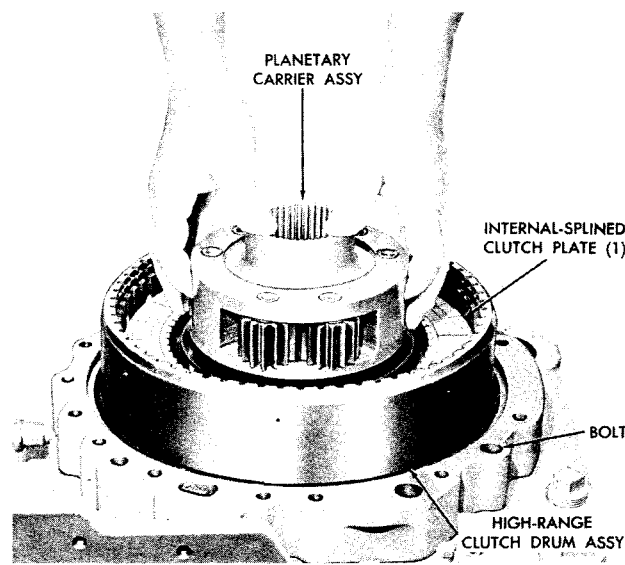

Fig. 7-31. Installing low-range planetary carrier assembly (-3 underdrive model)
(12) Install two 3/8-16 x 2 3/4-inch bolts at opposite sides of the adapter assembly to pull the adapter down against the clutch piston return springs. Install the two 3/8-16 x 1 3/4-inch, 12-point-head bolts (fig. 7-31). Tighten the bolts to 36 to 43 pound feet torque.
(13) Remove the two outer guide bolts and 3/8-16 x 2 3/4-inch pulldown bolts which were temporarily installed in (12), above. Install the six 3/8-24 x 1 1/4-inch, self-locking bolts 28 (B, foldout 9) into the inner bolt circle. (Remove the inner guide bolts to install the last two self-locking bolts.) Tighten the bolts to 41 to 49 pound feet torque.
(3) Install the snapping which retains the high-range clutch drum on the forward planetary carrier.
(4) Install the low-range planetary sun gear, thrust washer upward, onto the forward planetary carrier.
(5) Install one internal-splined clutch plate (fig. 7-31). Install the low-range planetary carrier assembly.
(6) Install the low-range ring gear, positioning ring first, into the clutch plate installed in (5), above. (Also see fig. 7-31.)